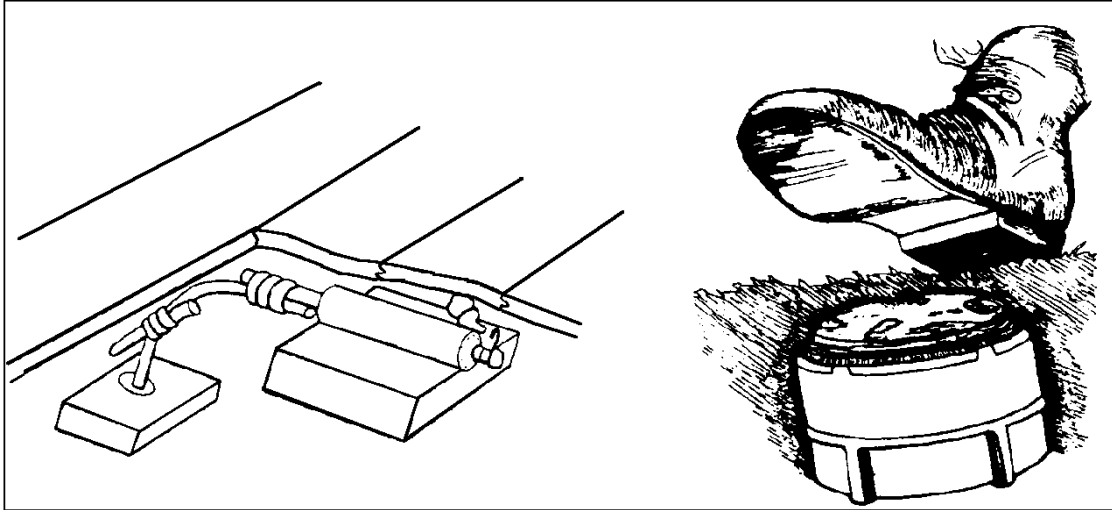

Figure 051-193-1013-1
- (1) Pressure. The downward force of a man's foot or the wheel or track of a vehicle activates a fuse (Figure 051-193-1013-1).